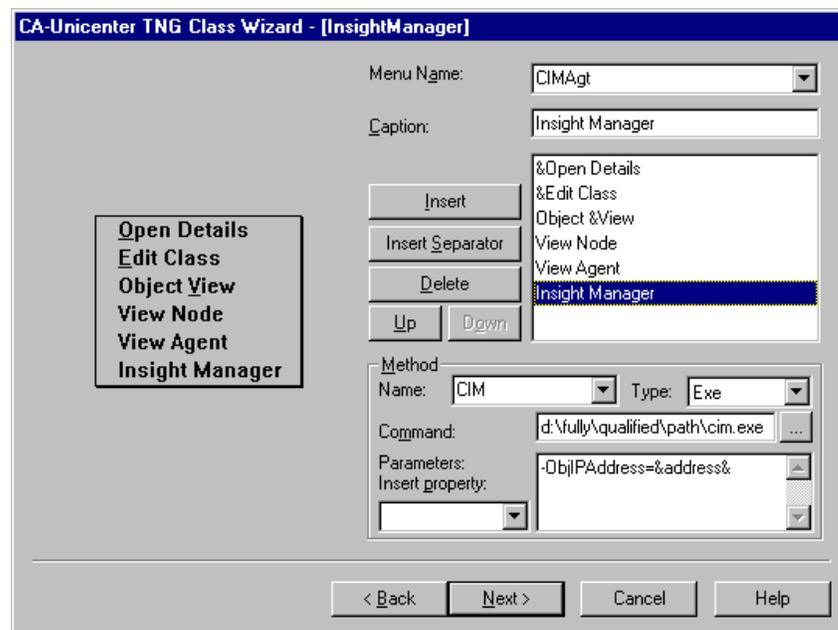

Figure 5-2. Unicenter TNG Class Wizard
3. Click **Next** three times to display the Menu Dialog shown in Figure 5-2.